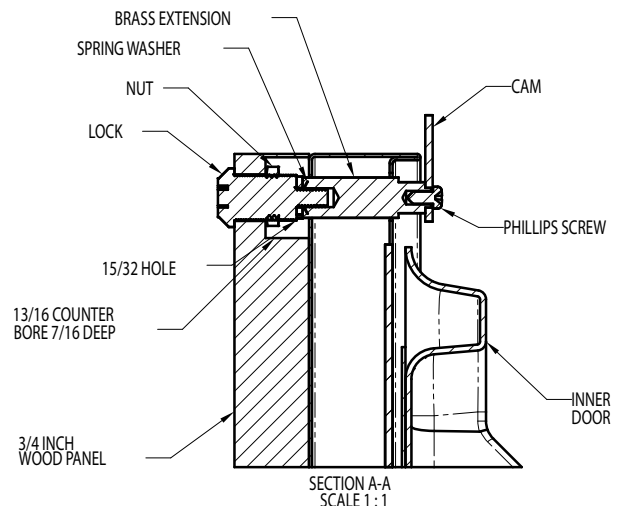

Figure 12
Locate and mark with a pencil the location of the lock hole on the overlay panel, this is the hole in the top corner of the handle side of the door. Remove the clamp and remove the overlay panel from the door. On the backside of the panel where you marked the lock location drill a 13/16" (20.5mm) diameter counter bore 7/16" (11.0mm) deep into the overlay panel. Drill a 15/32" (12.0mm) diameter hole through the overlay panel centered on the counter bore being careful not to splinter the wood on the face side of the panel. (See Figure 12).
Two (2) lock extensions are supplied with the lock. Use the longer extension for a 3/4" thick overlay panel and the shorter one for a 5/8" thick panel. Assemble the lock extension, cam stop washer, spring washer, and set screw to the lock as shown in Figure 12 and 13. Install this assembly into the overlay panel and secure with the retaining nut using a 15mm socket. Make sure the key slot in the lock is vertical.